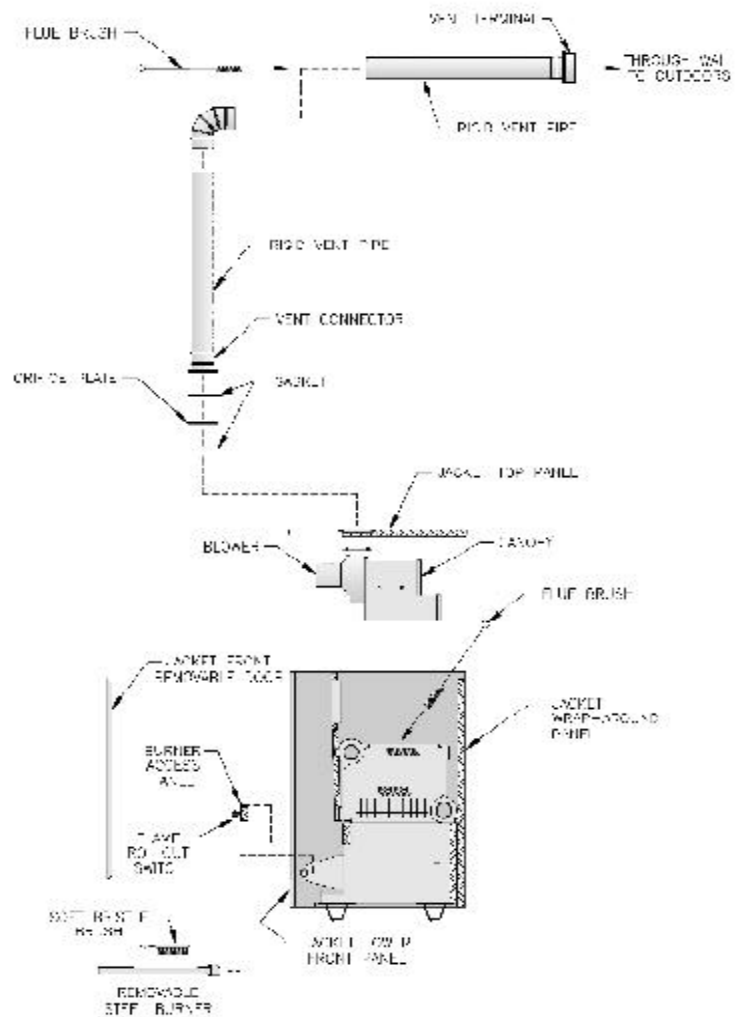

Figure 19: Flueway Cleaning
1. Remove vent connector and vent pipe. See Figure 19.
- E. Inspect Boiler Flue Passages** for blockage or soot accumulation. See Figure 19.
- b. If passageways need cleaning, remove burners as described in Paragraph F below. Using long handle wire or bristle flue brush and vacuum, brush flueways thoroughly from top of boiler as illustrated in Figure 19. Replace canopy and seal using kit available from Burnham Distributors, Part No. 6111716.
2. Brush top of burners with a soft bristle brush. See Figure 19. Vacuum burners.